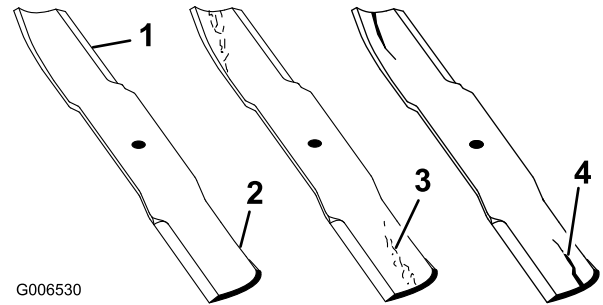

Figure 101
2. Examine the cutting ends of the blade carefully, especially where the flat and curved parts of the blade meet (Figure 101). Since sand and abrasive material can wear away the metal that connects the flat and curved parts of the blade, check the blade before using the mower. If wear is noticed (Figure 101), replace the blade.